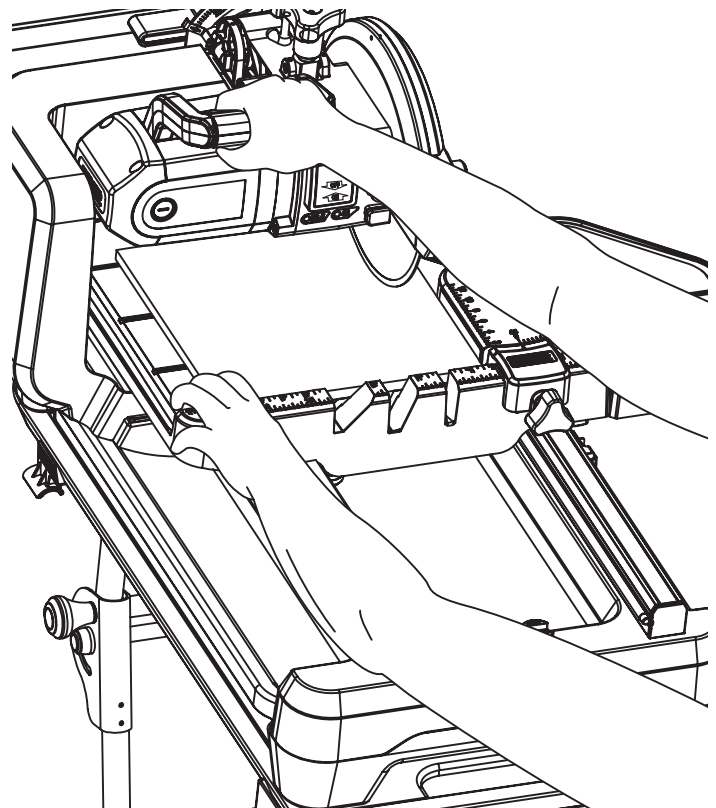

Fig. 47
6. Plunge the blade into the tile. Do not force the saw or move the blade too quickly into the tile (Fig. 47).